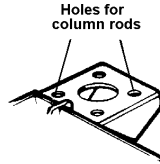
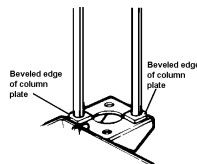

Figure 2
Figure 3
6. To install the two threaded column rods, screw the two rectangular column plates onto the rods approximately 1". Note that the column rods will be mounted into the small lower left and upper right holes of the column support plate (when standing in front of the short side of the scale platform). See Figure 2. Insert each column rod through the proper hole in the support plate, being sure that the column plates do not cover any part of the large center hole in the support plate, being sure that the column plates do not cover any part of the large center hole in the column support plate. Also, be sure that the beveled edges of the rectangular column plates are the furthest distance away from the large center hole in the column support plate as possible. This will allow proper alignment of the column itself. See Figure 3. From underneath the column support plate, install a lock washer and 3/8" nut onto the column rod. These nuts should be finger-tightened only.